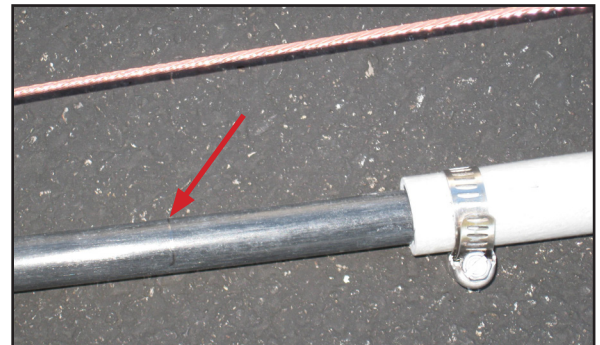

Fig. 92
- Extend the right-hand 20 M **Driven Element** a length of 1.0" as shown in Fig. 92. Then extend the left-hand 20 M **Driven Element** to the same length. Repeat lengthening the right-hand and left-hand element lengths until the **Driven Element** wires are under tension and are straight. Do not over-tension. The element length on both sides of the antenna boom should be equal.